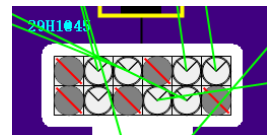

Figure3
3. As shown in Figure 3, when the user sets the empty pin, the yellow box disappears, indicating that the module is connected normally.